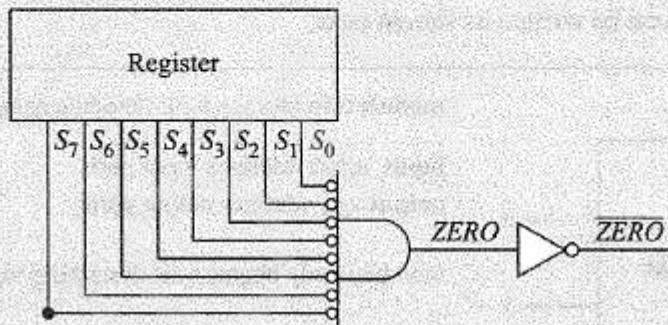

Figure 2.36: Assertion-level logic diagram ,showing the detection of zero and minus accumulator contents
- (a) Figure 2.36 shows a design using assertion-level logic. The bits go to a bubbled AND gate (the same as positive NOR gate). When all the bits are low, output ZERO is high. Because of the inverter, the final output $\overline{\text{ZERO}}$ is active-low. Therefore, when the sum is zero, $\overline{\text{ZERO}}$ is negative true.